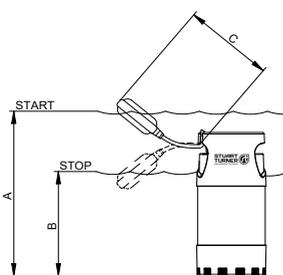
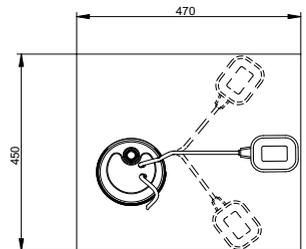

Fig. 5 Min. Float Switch Movement
Fig. 7 Min. Size Of Sump
2.22 If modification of the level setting is required refer to Figures 5 and 6 and the following chart.
2.23 Wherever the pump is installed it must have sufficient dimensions for the float switch to operate freely (Fig. 7), retaining a minimum water depth as previously stated. The pump is continuously rated when fully submerged but should only be run for short periods (10 mins) when the water drops to the minimum level. The number of starts should not exceed 30 per hour. Note: It is not possible to empty the sump completely, a minimum depth must remain (Figs. 5 & 6).